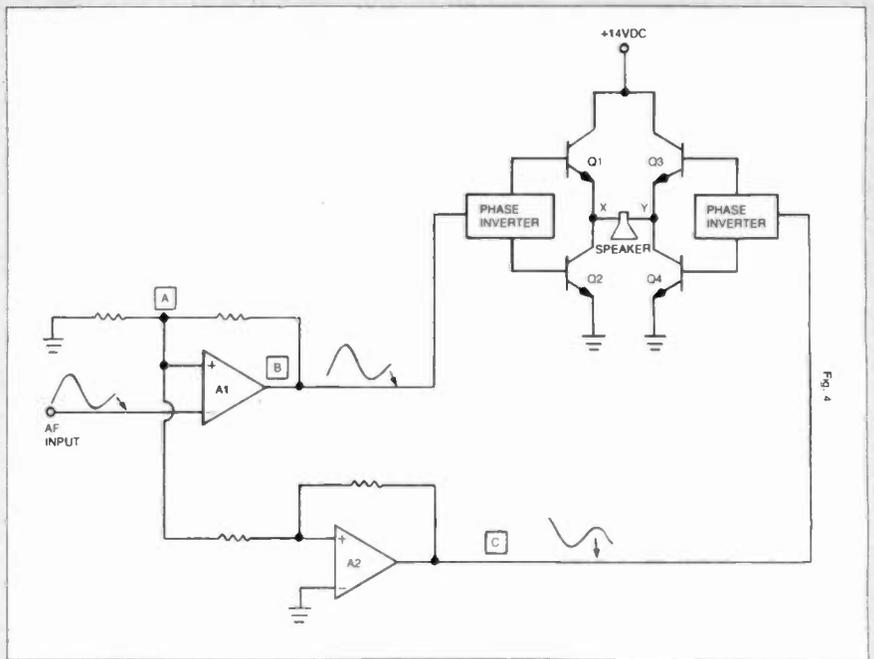

Fig. 4 A typical bridge configuration amplifier.
Some new car radios, notably the Delco models, have a little tag on the chassis that says "DO NOT GROUND LOUSPEAKERS." Why not? After all, aren't car radio loudspeakers normally grounded? In the past, single-ended and push-pull audio amplifiers used a speaker system in which one side was grounded. This makes sense in a car radio because we can then use the car chassis as the return for the speaker system. But, in making sense economically, it also limited the bandwidth in many models. The output transformer sapped frequency response. When transformerless outputs came along, they too had a single-ended output configuration. But now we are seeing something called bridge audio. What is bridge audio? See Fig. 4.
Figure 4 shows the block diagram for a bridge audio power amplifier stage. Transistors Q1 through Q4 are power amplifiers, and are connected into a bridge circuit with the loudspeaker at the bridge output terminals. You will recognize Q1/Q2 and Q3/Q4 as the ordinary single-ended totem-pole output amplifier used for a number of years in auto radio. Ordinarily, the voltage at points X and Y is $\frac{1}{2}$ -Vcc, which in this case would be $\frac{1}{2}$ (14), or 7v dc. When a signal is applied, the phase inverter section will turn one transistor of each pair on and the other off, depending